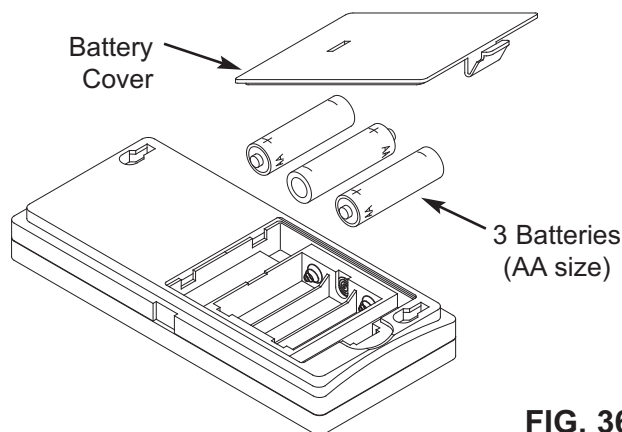

FIG. 36
2. Install three (3) AA size batteries, making sure that they are oriented to match the + and – markings inside the battery compartment (See Figure 36).